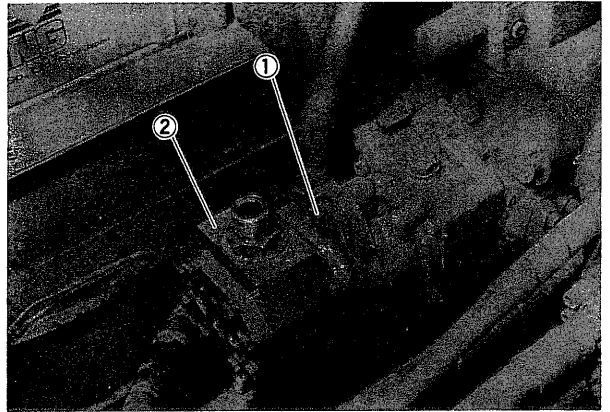

Fig. 109
- 2) Remove bolts ① and take out pump ②. (Fig. 109)
- 1) Remove bolts ⑧ and remove cover ⑦.
Before disassembling, mark cover ⑦, body ② and cover ① for reassembly. (Fig. 109)